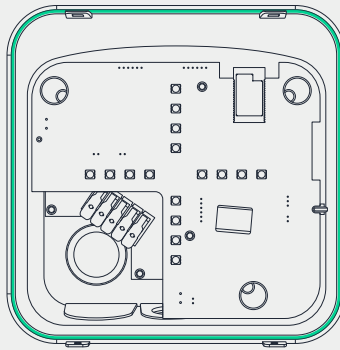

Fig. 9 - Rubber seal
18. Verify that the rubber seal mounted on the inside border of the enclosure is fitted tight in the designated place. **(Fig. 9)**